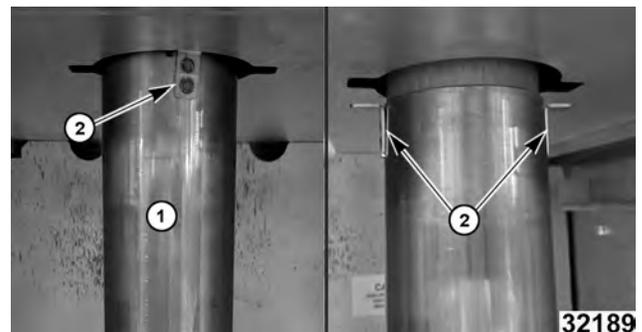

Fig. 19
1. Remove drain tube (1, Fig. 19) by turning to align tabs (2, Fig. 19) with slots. Tube will drop free.